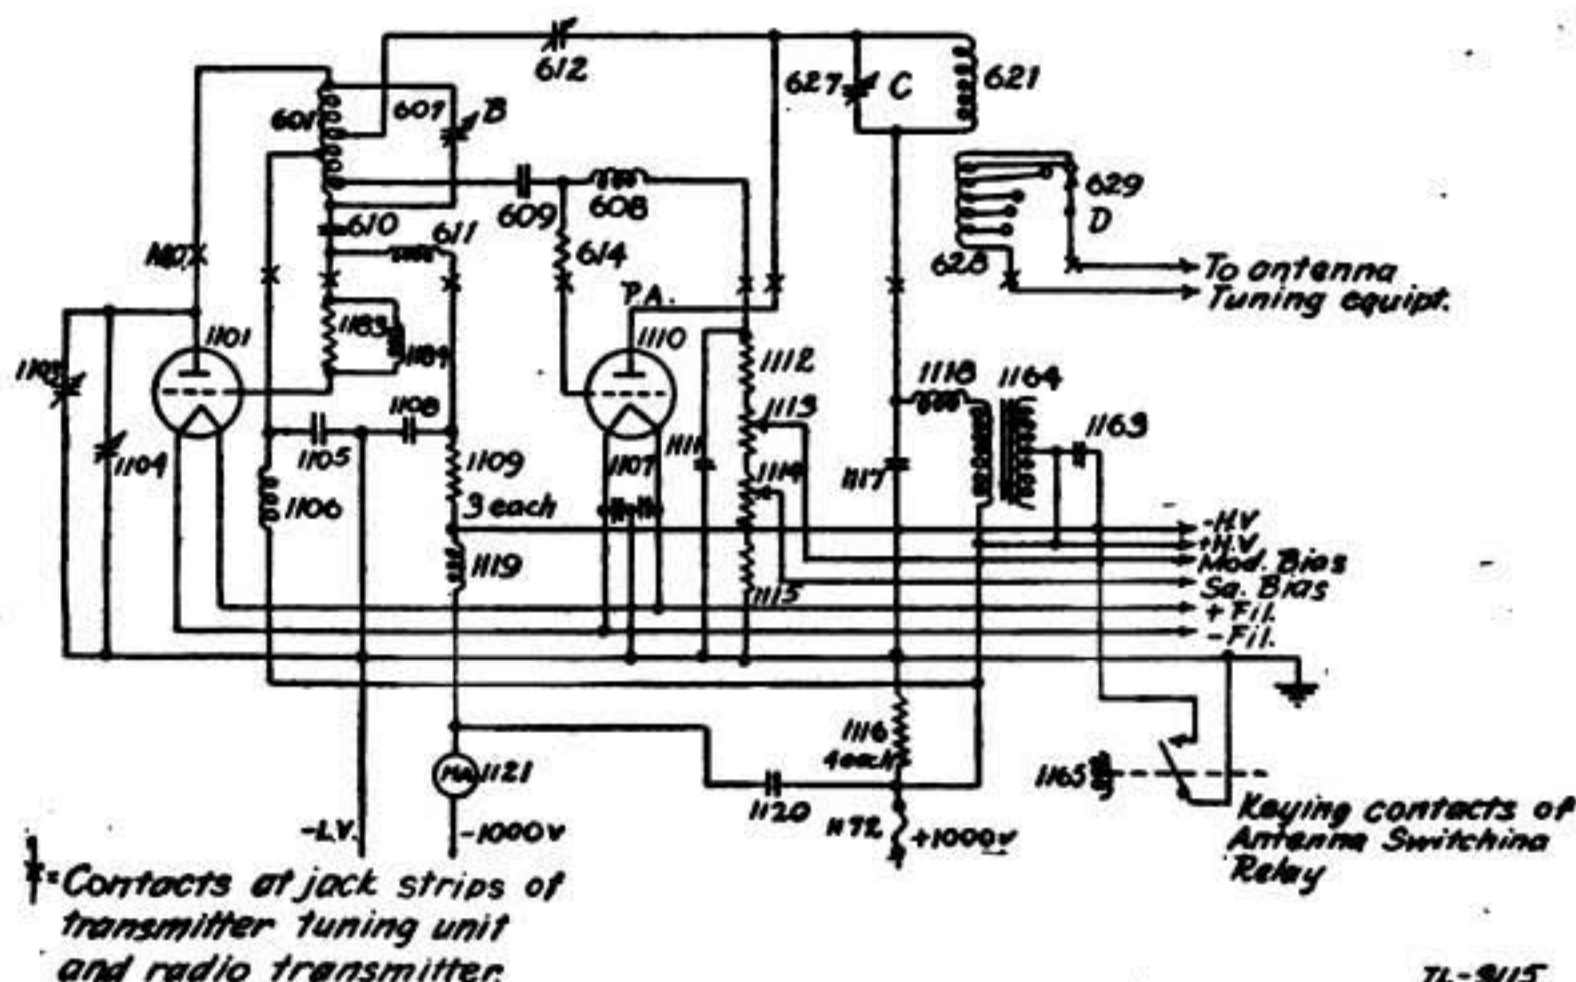
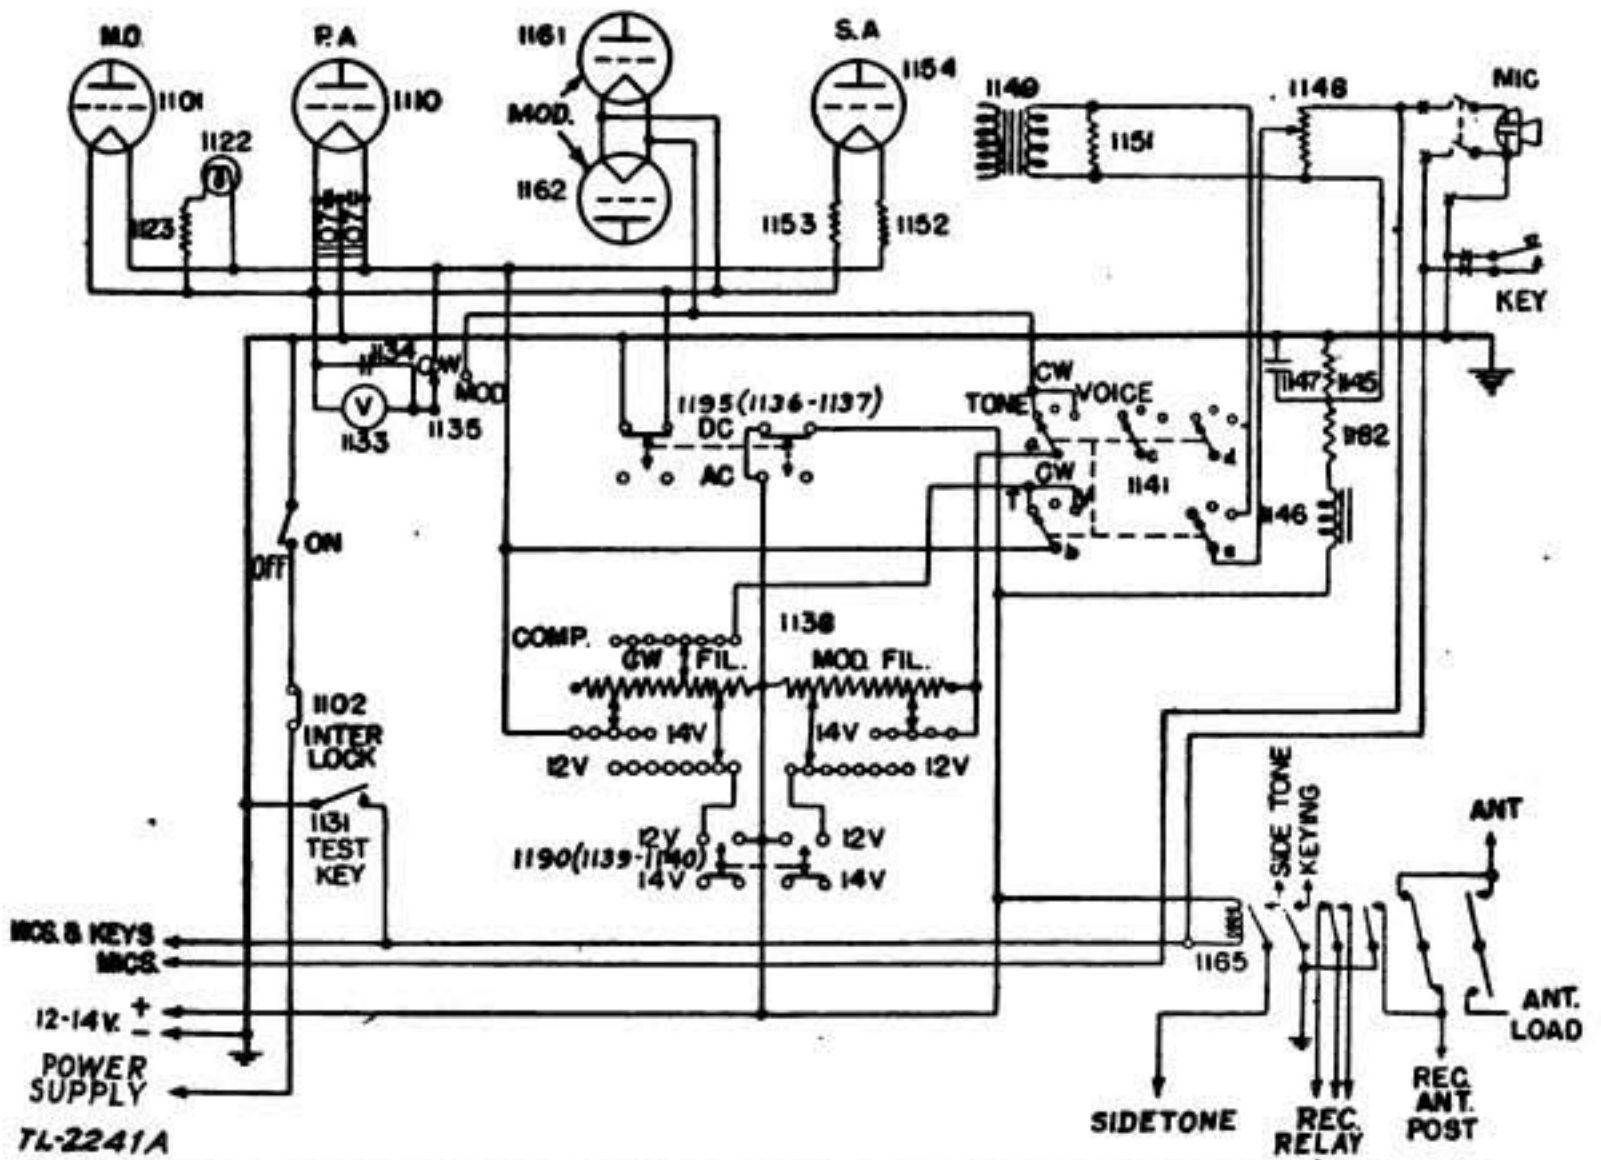

FIGURE 12.—Radio transmitter BC-191-(*), radio frequency and high voltage circuits—functional diagram.
Figure 17.—Radio transmitter BC-191-(*), low voltage and control circuits, d-c operation—functional diagram.
27. Radio transmitters BC-191-(*) and transmitter tuning units TU-3-A or -B, TU-5 to TU-10-A or -B, TU-22-A or -B and TU-26-A or -B.—*a. Oscillator circuit.*—The master oscillator circuit is schematically illustrated in figure 12. The oscillatory
circuit by which the frequency of the transmitter is controlled is contained in the transmitter tuning unit being used. When the transmitter tuning unit TU-6-A or -B is employed and the BAND CHANGE SWITCH A is in position 2 (fig. 20), the oscillatory circuit comprises the tapped coil 601 and the variable capacitor 607. Moving the BAND CHANGE SWITCH A to position 1 places the fixed capacitors 603 and 613 in parallel with the variable capacitor 607, and enables this tuning unit to cover the lower ranges of its frequency band. Continuous adjustment of frequency is accomplished by means of the variable capacitor 607, control B. Controls, coil, and capacitors of the other transmitter tuning units (fig. 20) are arranged for similar operation on either one, three, or four bands, depending on the unit. In each tuning unit, both coils and capacitors are thermally compensated to reduce frequency variation due to normal changes in air temperature. Subsequent discussion of the master oscillator circuit is limited to the circuit shown in figure 12, which results when transmitter tuning unit TU-6-A or -B is used with BAND CHANGE SWITCH A on position 2. The radio frequency voltage across the lower half of the coil 601 provides the master oscillator grid excitation voltage. The coil is also tapped an equal number of turns on either side of the center tap. The grid excitation voltage for the power amplifier is furnished through capacitor 609. The master oscillator grid excitation voltage is obtained through capacitor 610, which also blocks the d-c plate voltage from the grid circuit. Resistor 1183 and choke 1184, in parallel, are connected in series with the grid of the master oscillator tube to prevent the generation of parasitic oscillations. The plate voltage for the master oscillator is fed to the tuning unit through radio frequency choke 1106, which, with capacitor 1105, prevents radio frequency current from flowing into the power supply. Resistors 1109 (three in series) function as the master oscillator grid leak which provides the required operating bias for the master oscillator tube from the rectified grid current. Part 1108 is a radio frequency bypass capacitor. Grid choke 611, in conjunction with resistors 1109, serves as the necessary d-c path from the grid to the filament, maintaining at the same time a high impedance to the radio frequency grid excitation voltage. Capacitor 1104 is the calibration reset by means of which the master oscillator tuning circuit can be adjusted to correspond to the calibration chart whenever the oscillator tube is changed. This capacitor is adjusted through a small port in the front panel to the right of TEST KEY. Capacitor 1103 is a sealed capacitor which provides the necessary thermal compensation for any frequency drift normally
b. Power amplifier circuit.—(1) The power amplifier circuit is schematically illustrated in conjunction with the master oscillator circuit in figure 12. The power amplifier plate tank circuit, by means of which the plate load impedance is adjusted, is contained in the transmitter tuning unit. When the transmitter tuning unit TU-6-A or -B is employed and BAND CHANGE SWITCH A is in position 2, the plate tank circuit comprises the coil 621 and variable capacitor 627. Moving BAND CHANGE SWITCH A to position 1 places
(2) Subsequent discussion of the power amplifier circuit is limited to the circuit shown in figure 12, which results when the transmitter tuning unit TU-6-A or -B is used with BAND CHANGE SWITCH A on position 2. The power amplifier grid receives excitation through capacitor 609 from the master oscillator tank coil. Capacitor 609 also keeps the master oscillator d-c plate voltage from the
f. Keying.—Keying of the transmitter (fig. 12) is controlled by means of resistor 1115, one end of which is connected to negative high voltage and to all grid circuit returns, and the other end to negative filament or ground potential. The keying contacts of relay 1165 are connected across this resistor. When the keying contacts are open, the voltage drop across 1115 is such that the grids of the tubes are negatively biased beyond plate current cut off, stopping oscillation. When these keying contacts are closed, resistor 1115 is shorted and normal grid biases on all tubes are reestablished. Operation of the keying contacts is accomplished by supplying power to the antenna switching relay 1165. (See fig. 17.) Power is supplied to this relay when the key, test key, or the microphone button switch is operated. Operation of the antenna switching relay performs the following additional functions:
- (1) Disconnects the receiving equipment from the antenna and grounds the receiver input circuit.
- (2) Connects the transmitter to the antenna circuit.
- (3) Keys the side tone circuit.
(2) Under the condition of d-c filament supply (fig. 17), resistor 1138 is used to adjust the filament potential to approximately 10 volts, as indicated by the red line on voltmeter 1133. The midtap of this resistor is connected to the power source. One side of the resistor is used for the adjustment of the filaments of the tubes used for continuous wave operation and the other side for the modulator tubes.
(3) Provision is made to short out a section of the continuous wave filament resistor by means of one section of switch 1141 (figs. 13 and 17) to compensate for the increased line drop which occurs when the modulator filaments are lighted. This arrangement makes it unnecessary to readjust the voltages when changing from continuous wave to tone or voice operation. A portion of the resistor may be short-circuited by the 12V. 14.2V. switch 1190 (1139, 1140) (fig. 17), so that the correct filament voltage may be applied both when the power supply storage battery is being charged and when it is not being charged. Switch 1135 connects filament voltmeter 1133 to either the continuous wave or modulator tube filaments. If the filaments are operated from an a-c source, resistor 1138 serves only as a compensating resistor to eliminate the need for readjusting the filament rheostat when changing from continuous wave to tone or voice transmission.